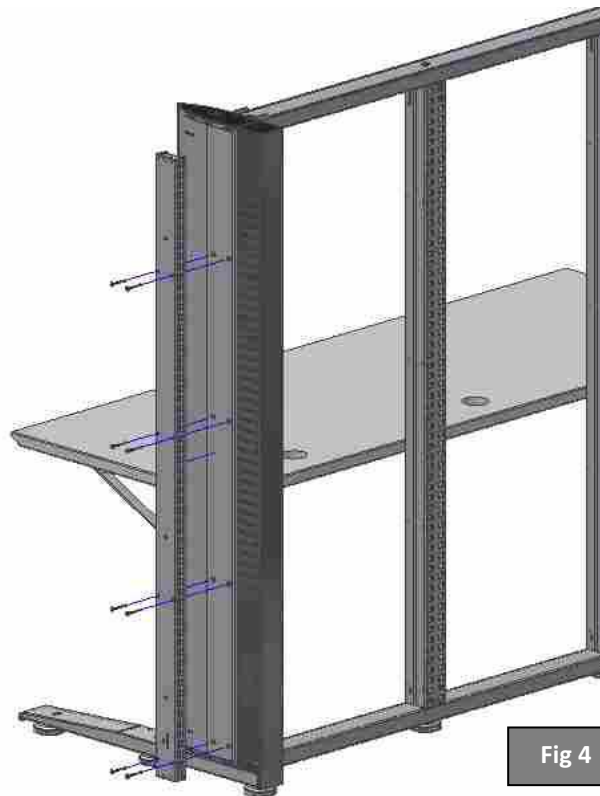

Fig 4
A) Position the **grooved bars** in the **base sides** where the **corner brackets** will be located (Fig. 4).